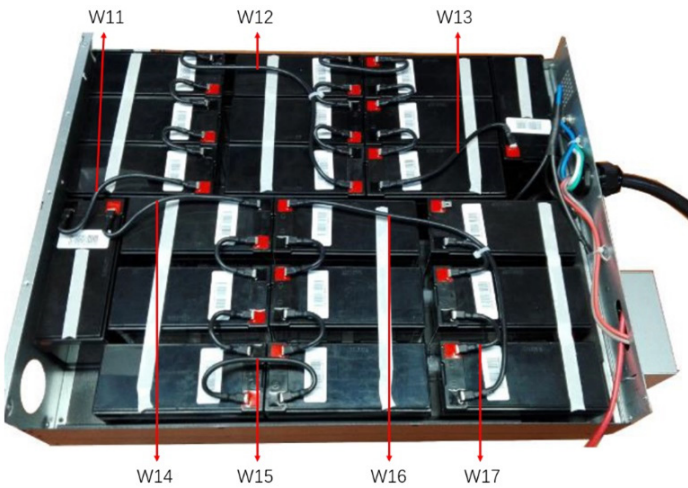

Fig 2-3
3. Connect the battery with W11, W12, W13, W14, W15, W16 refer to Fig 2-3: